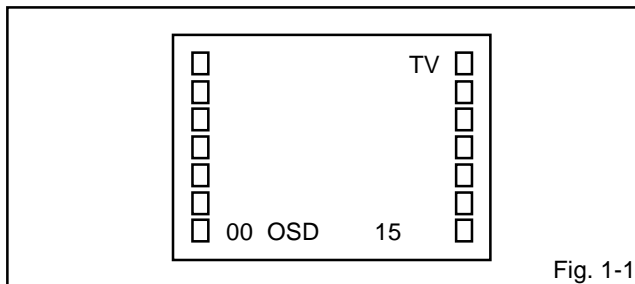

Fig. 1-1
1. Follow the steps as follows to discharge the Anode Cap. (Refer to Fig. 1-1.)
Press the VOL. DOWN button on the set and the Channel button (9) on the remote control for more than 1 second to appear the adjustment mode on the screen as shown in **Fig. 1-1**.
4. Activate the adjustment mode display of **Fig. 1-1** and press the channel button (02) on the remote control to select "RF AGC DELAY".
3. Activate the adjustment mode display of **Fig. 1-1** and press the channel button (01) on the remote control to select "CUT OFF".
4. Activate the adjustment mode display of **Fig. 1-1** and press the channel button (10) on the remote control to select "R.BIAS".
3. Activate the adjustment mode display of **Fig. 1-1** and press the channel button (16) on the remote control to select "TINT".
2. Activate the adjustment mode display of **Fig. 1-1** and press the channel button **(05)** on the remote control to select "H PHASE".
2. Activate the adjustment mode display of **Fig. 1-1** and press the channel button **(06)** on the remote control to select "V SIZE".
2. Activate the adjustment mode display of **Fig. 1-1** and press the channel button **(07)** on the remote control to select "V SHIFT".
1. Activate the adjustment mode display of **Fig. 1-1**.
4. Activate the adjustment mode display of **Fig. 1-1** and press the channel button **(03)** on the remote control to select "VIF VCO".
1. Activate the adjustment mode display of **Fig. 1-1** press the channel button **(14)** on the remote control to select "CONTRAST".
1. Activate the adjustment mode display of **Fig. 1-1** and press the channel button **(13)** on the remote control to select "BRIGHTNESS".